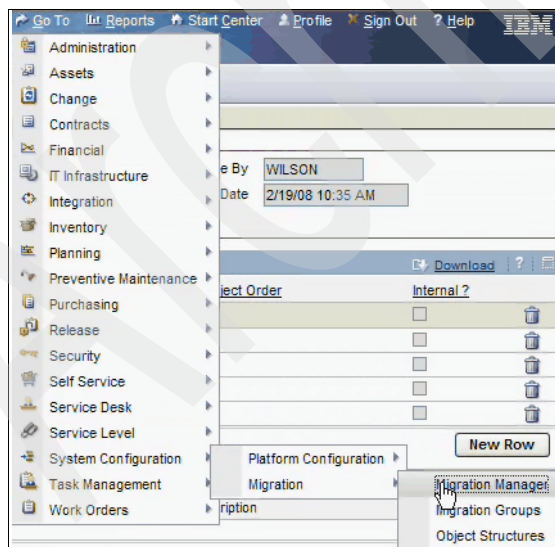

Figure 8-19 Migration menu - Migration Manager
1. From the Go To menu, select **System Configuration** → **Migration** → **Migration Manager**, as shown in Figure 8-19.